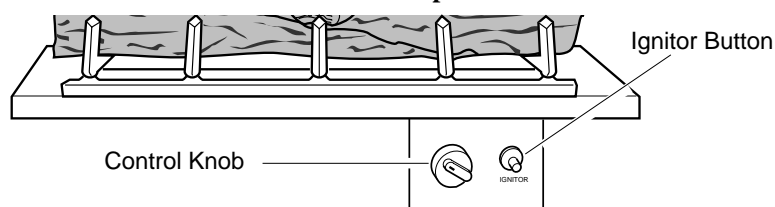

Figure 29 - Control Knob and Ignitor Button Location
4. Wait five (5) minutes to clear out any gas. Then smell for gas, including near the floor. If you smell gas, STOP! Follow "B" in the safety information above. If you don't smell gas, go to the next step.
5. Slightly depress and turn control knob counterclockwise  to the PILOT position. Press in control knob for five (5) seconds (see Figure 29, above).